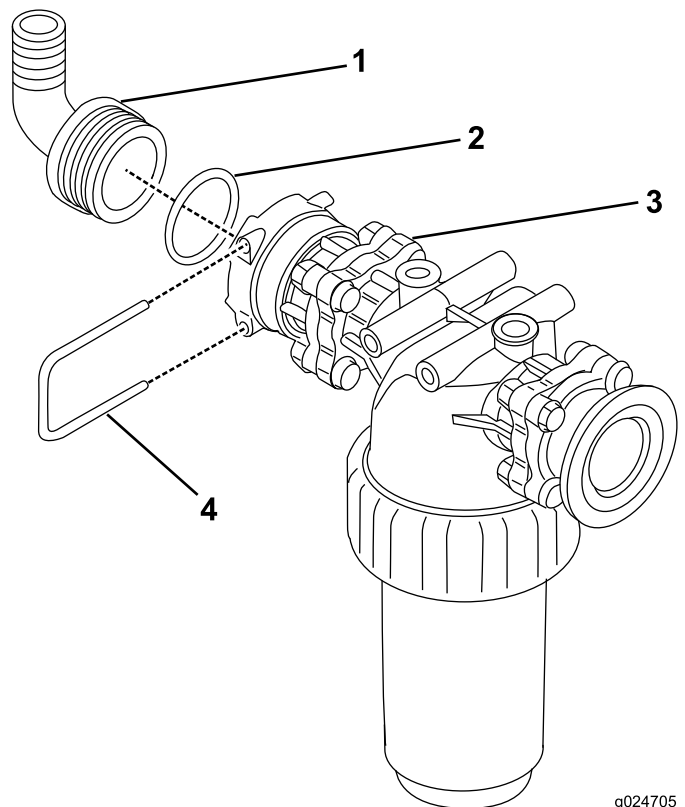

Figure 22
1. Assemble the pressure filter assembly (Figure 22).